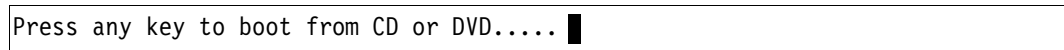

Figure 9-127 Prompt to press a key to boot from the *CD* or *DVD*
- When the DVD starts to load, if prompted to press any key (Figure 9-127), press a key so that the DVD starts to boot. If you do not press a key, you return to the UEFI setup window.